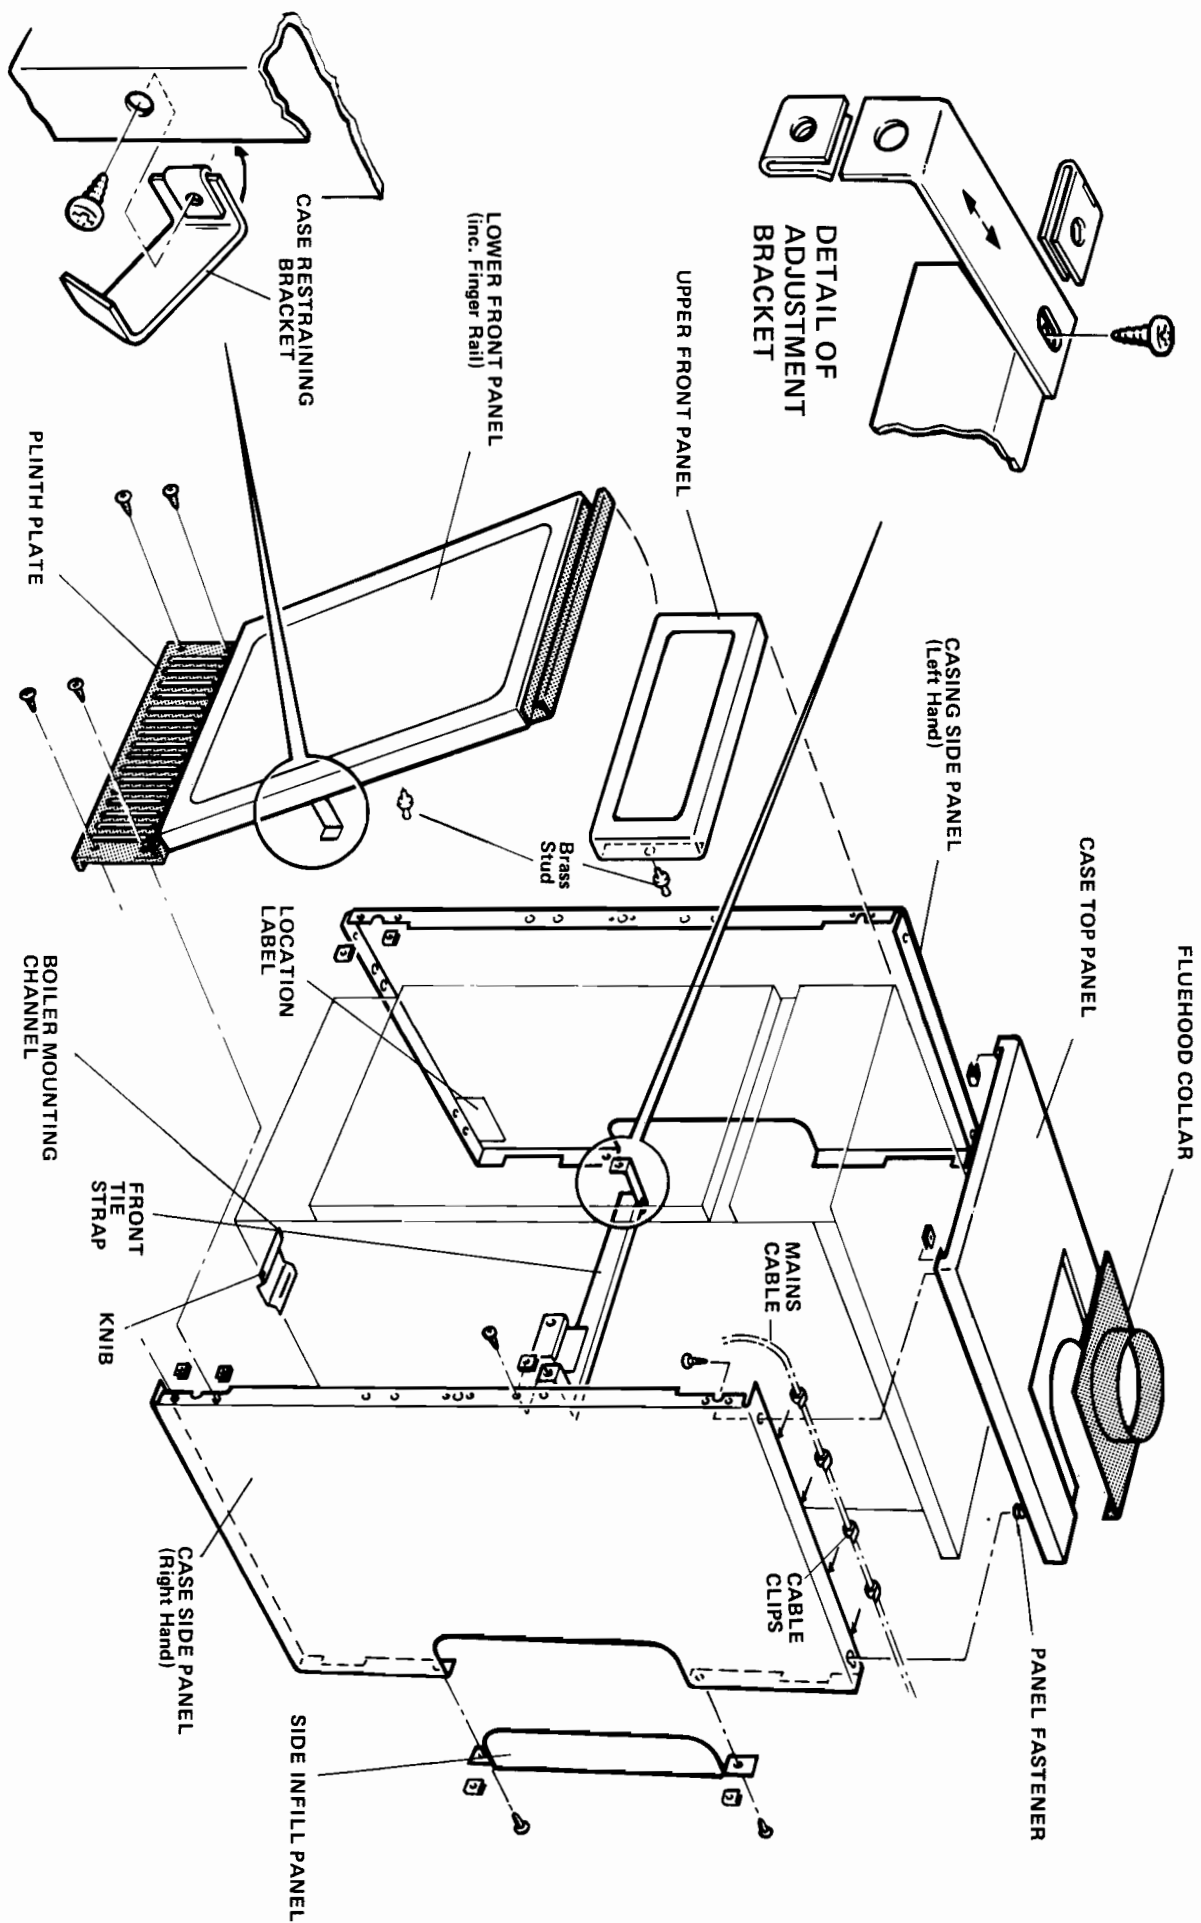

FIG. 14
9. CASING — See Fig. 14
- C. Fit the captive nuts supplied in the fastener pack to the hole positions shown in Fig.14 (13 off including 2 for the side infill panel). The four smaller captive nuts and screws contained in the additional polythene bag should be used for the plinth.
- H. Fit the case adjustment brackets to each end of the front tie strap as shown in Fig.14. Do not fully tighten the screws at this stage.
- S. Fit the panel restrainer together with its captive nut to the right hand side of the lower front panel. (See Fig.14). The fixing hole is below the bank of three holes in the right hand side return flange.